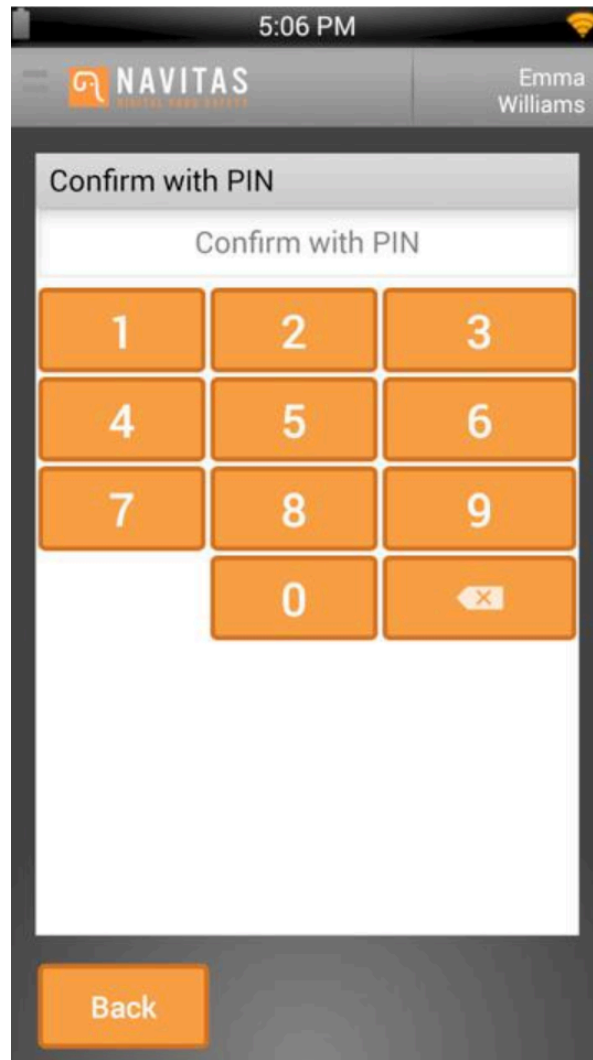

Fig. 26 – Staff PIN input
3. Enter the staff pin if required (see Fig. 26).